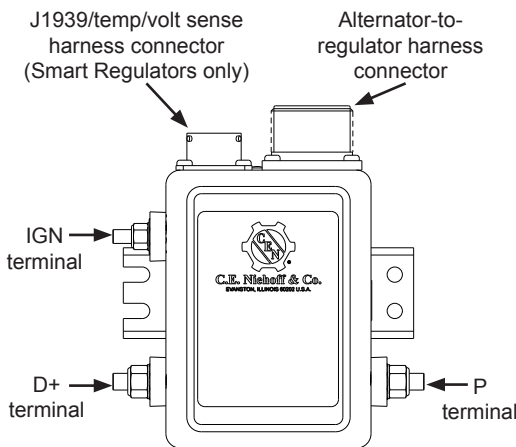

Figure 1: Typical Regulator Connections
- **IGN** terminal/pin (required): Vehicle must supply battery voltage to IGN terminal to energize charging system (See Figure 1).